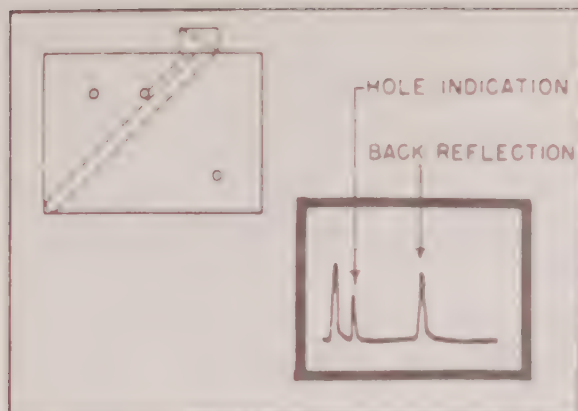

Figure 3-14 Beam Reflected From Middle Hole and From Corner of Test Block
- h. Slide the search unit slowly toward the left until a pattern similar to that shown in Figure 3-14 is attained.